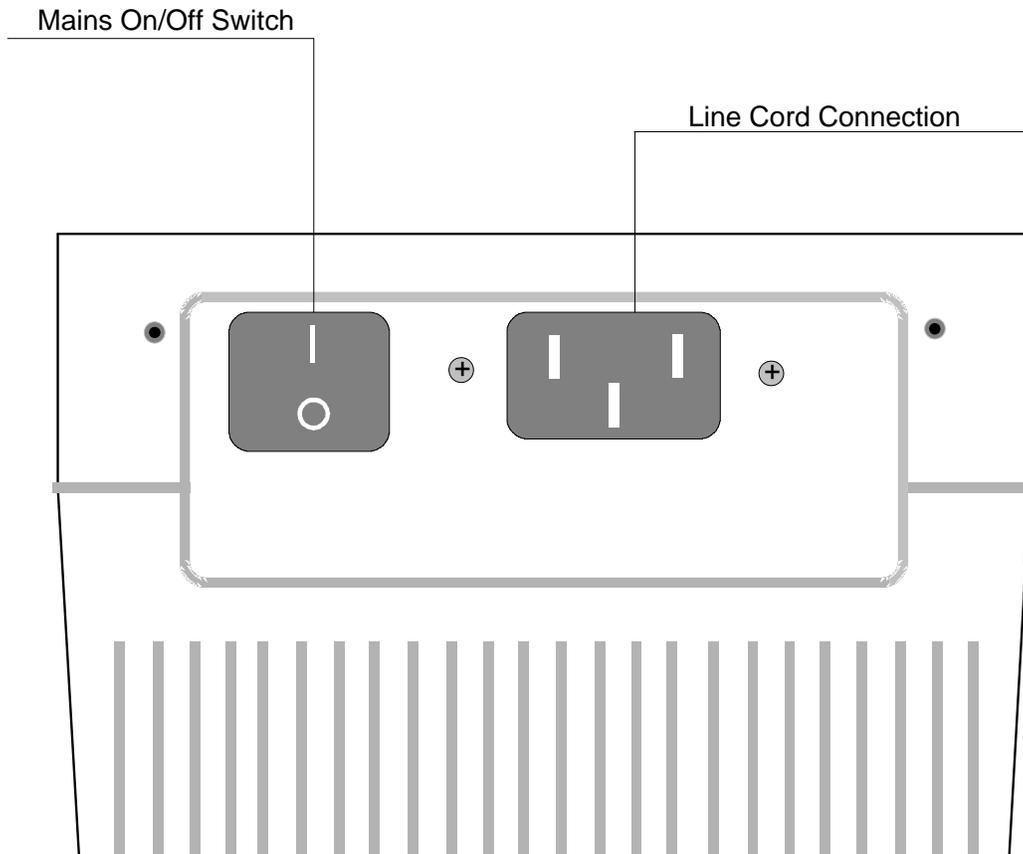

Figure 3.1 – Sys\*Stim 226, Bottom view – Mains Power Switch and Line cord connection
1. Connect the line cord to the bottom of the Sys\*Stim 226. (See Figure 3.1)